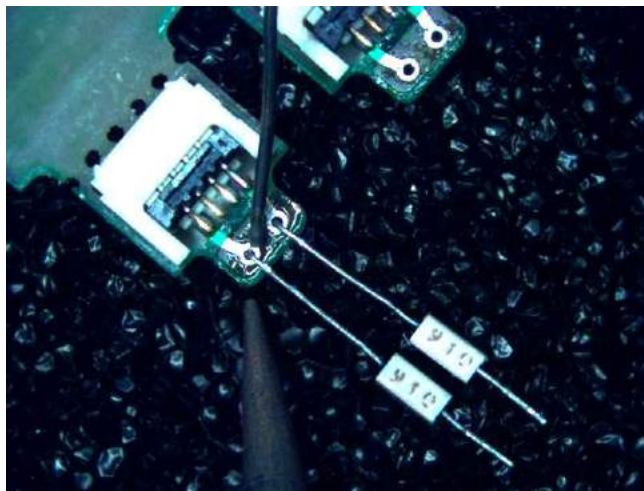
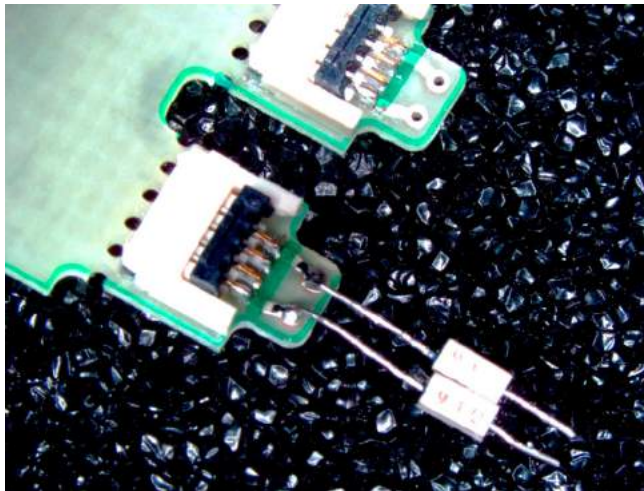

Figure 100 Soldering the Resistors
Figure 101 Solder Fillets Surrounding the Resistor Lead Wires
- 7 Momentarily apply the soldering iron tip to the resistor lead wires as shown in **Figure 100**. Touch the solder to the heated lead wire near the trace hole. A good fillet should form around the lead wire, thus sealing the trace hole. **Figure 101** shows good solder fillets surrounding the resistor lead wires. After soldering, clean board of any excess flux. On the ZIF Tip's opposite side, trim any excess lead wire protruding from the board.